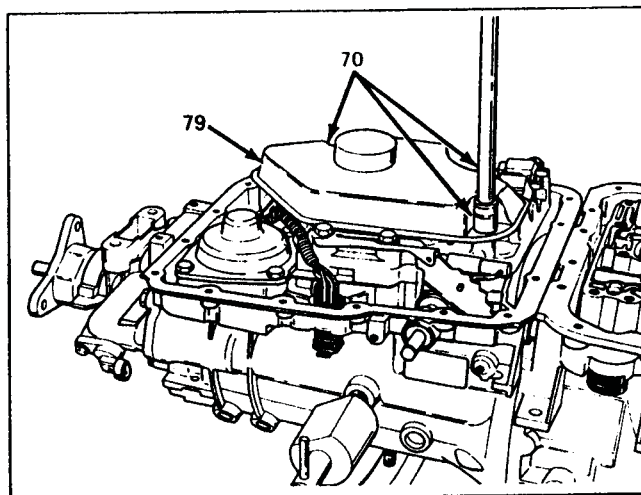

Figure 11
3. Remove the 3 retaining bolts holding the oil filter to the main case valve body (See Figure 11).